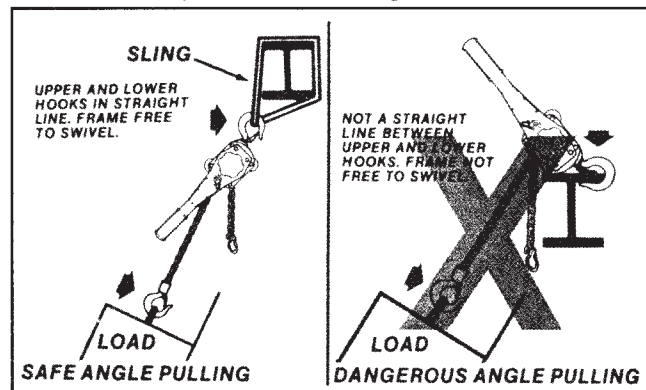

Figure 2. Angle Pulling
RIG THE UNIT IN A STRAIGHT LINE HOOK TO HOOK MANNER AND KEEP FRAME FREE TO SWIVEL - SEE FIGURE 2.
Under no condition should the frame be allowed to touch the load or bear on any support when in use as this might cause bending of the hook or frame and possible failure. Also, make certain the end ring end of the chain feeds into the chain guide roller properly. Twisted chain may become damaged in the liftwheel and may result in chain breakage. When operating in limited areas, it is advised that attachments or slings be used to keep the frame and lever from being obstructed. Refer to Figure 2.
13. Do not operate the hoist unless it is rigged to pull in a straight line from hook to hook, and the frame is free to swivel on the upper hook. Refer to Figure 2.